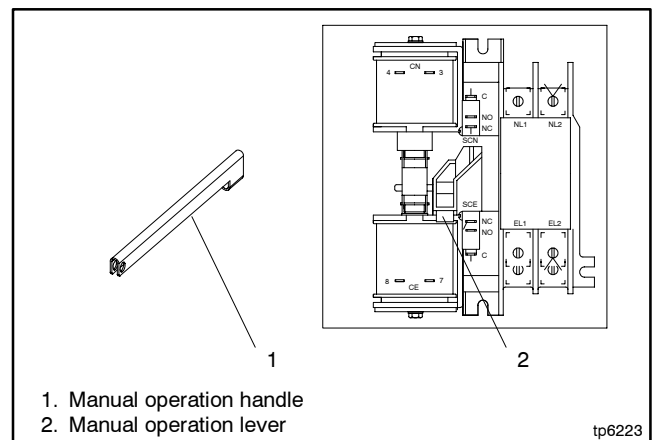

Figure 2-4 Model G220 Contactor with Manual Operation Handle (Procedure 2)
Procedure 2, for Model G220 transfer switches, shown in Figure 2-4
1. Slide the large end of the manual operation handle over the manual operation lever on the left side of the contactor. See Figure 2-4. Move the handle up to place the transfer switch in the Normal Source position, or down to place the contactor in the Emergency Source position.